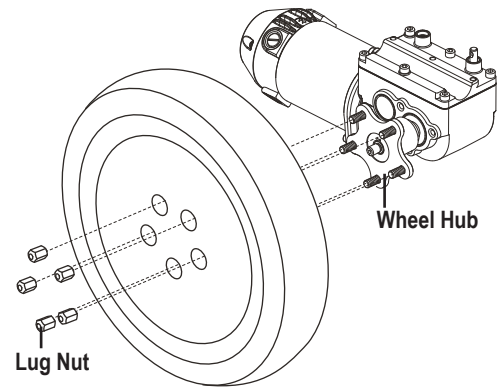

Figure 22. Drive Wheel
4. Remove the five (5) lug nuts from the wheel hub. **See figure 22.**